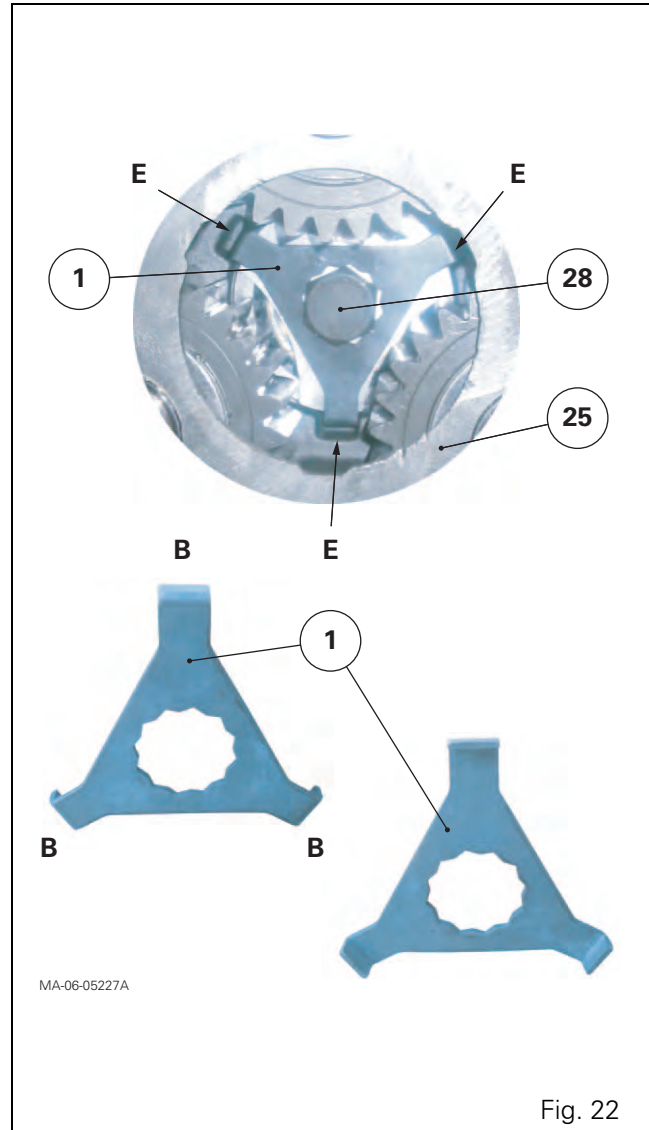

Fig. 22
63. Immobilise the axle shaft (2) or the planet carrier (25).
64. Refit the shim(s) (26) and the tripod washer (27).
65. Screw in and tighten the M20 screw (28) to 410 Nm.
66. Slide a lock washer (1) onto the head of the M20 screw (28). Ensure its tabs B are correctly housed in moulded slots E of the planet carrier (25) (Fig. 22). If this is not the case, repeat the step with the second lock washer; if this is still not the case, repeat the step with the third. Depending on the result (either no washer is suitable or a washer is selected), proceed to step 67 or 68.